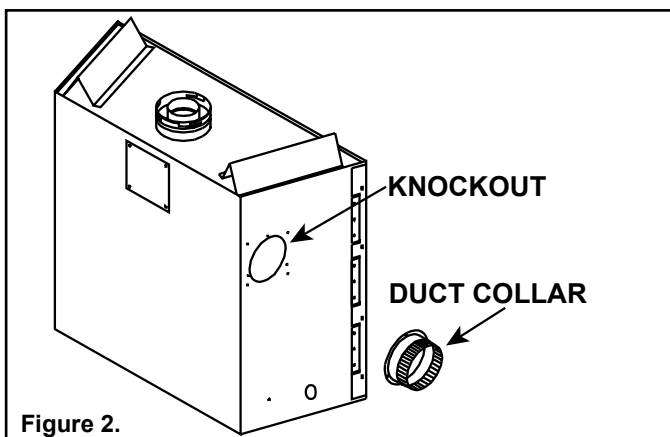

Figure 2.
1. Remove the knockout or cover plate from the side of the appliance and discard it. See Figure 2.